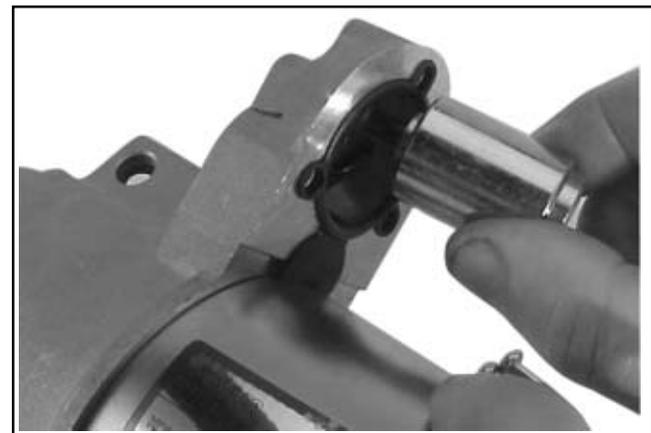

**Figure 8-41. Removing Solenoid Screws.**
2. Remove the three screws securing the solenoid to the starter. See Figure 8-41.